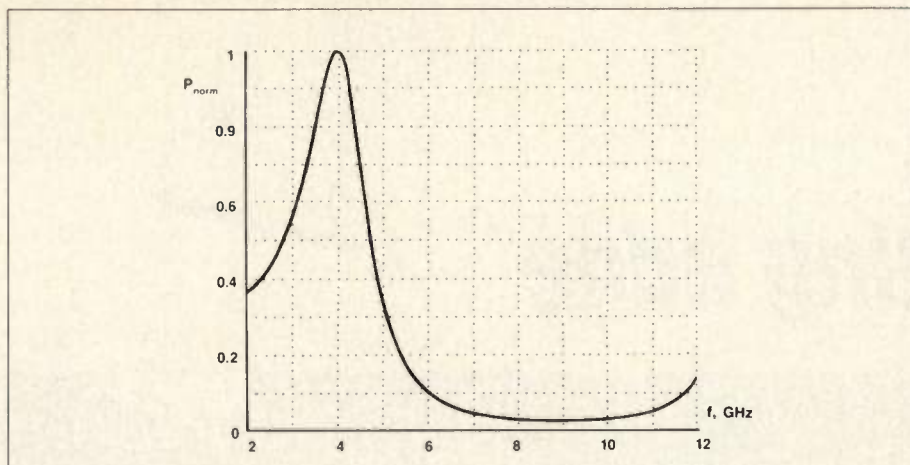

Figure 6. Normalized power transfer for the system of Example 2 and Figure 4.
Adjacent sections of the same wave impedance can be combined, so that the 18 ohm middle is $d_2 + d_3 = 11.3$ mm and $d_4 + d_1 = 1.9335$ mm. The total air-speed length is 23.485 mm. Figure 6 shows the power response. The solution is a bit longer than $\lambda_0/4$. A quarter-wave-and-stub system is about the same length, and a single-stub solution using Z_{\max} for the cascade line and Z_{\min} for an open stub at the source end is shorter. However, compensation of cascade line junctions (5) can be more precise than stub junctions (6). This example has shown that a cascade combination of lines can be used to match, in theory, any load to any source using the